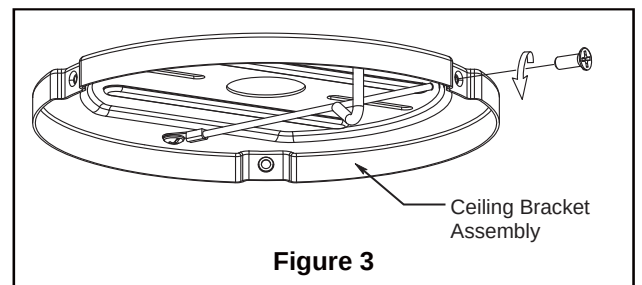

Figure 3
Brace use (Figure 3)
- ☐ 2. Remove the three screws from the ceiling bracket assembly and retain for later. (Figure 3)